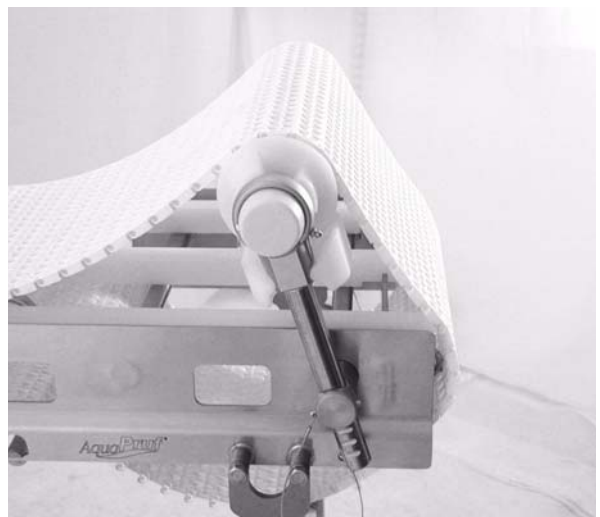

Figure 56
1. Tip up idler tail assembly (**Figure 56**).